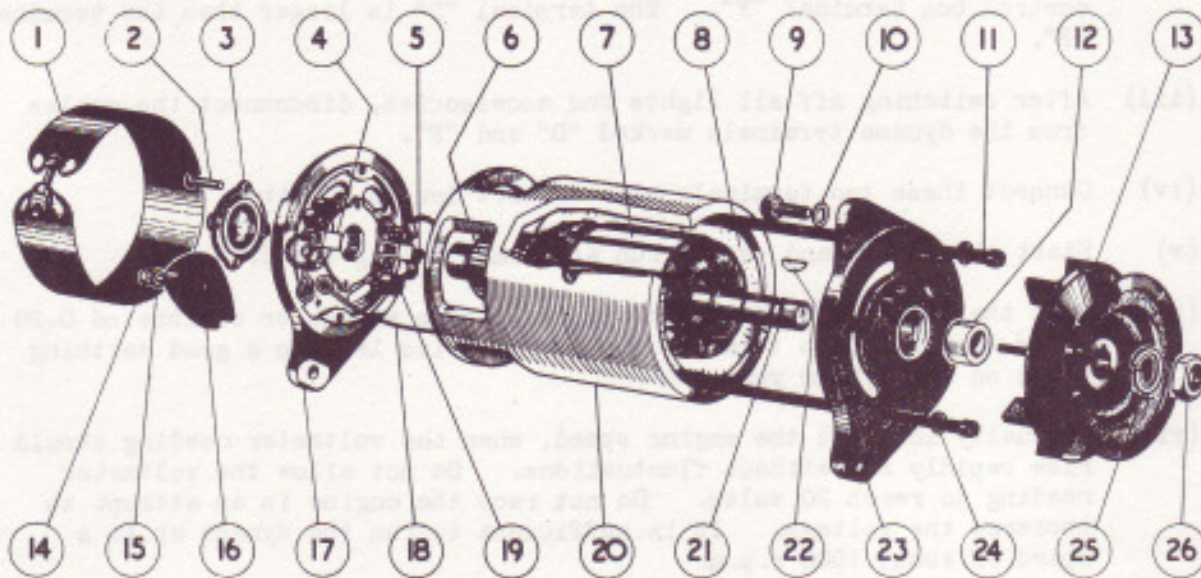

FIG. 2. EXPLODED VIEW OF DYNAMO.
- (ii) Check that the dynamo and control box are connected correctly. The dynamo terminals are accessible after the removal of the moulded terminal cover (16) shown in Fig.2, secured to the commutator end bracket (17) by a setscrew (14). The dynamo terminal "D" should be connected to the
Disconnect the battery at the positive terminal. Remove the moulded terminal cover (16 Fig.2) and disconnect the two cables marked "D" and "F".